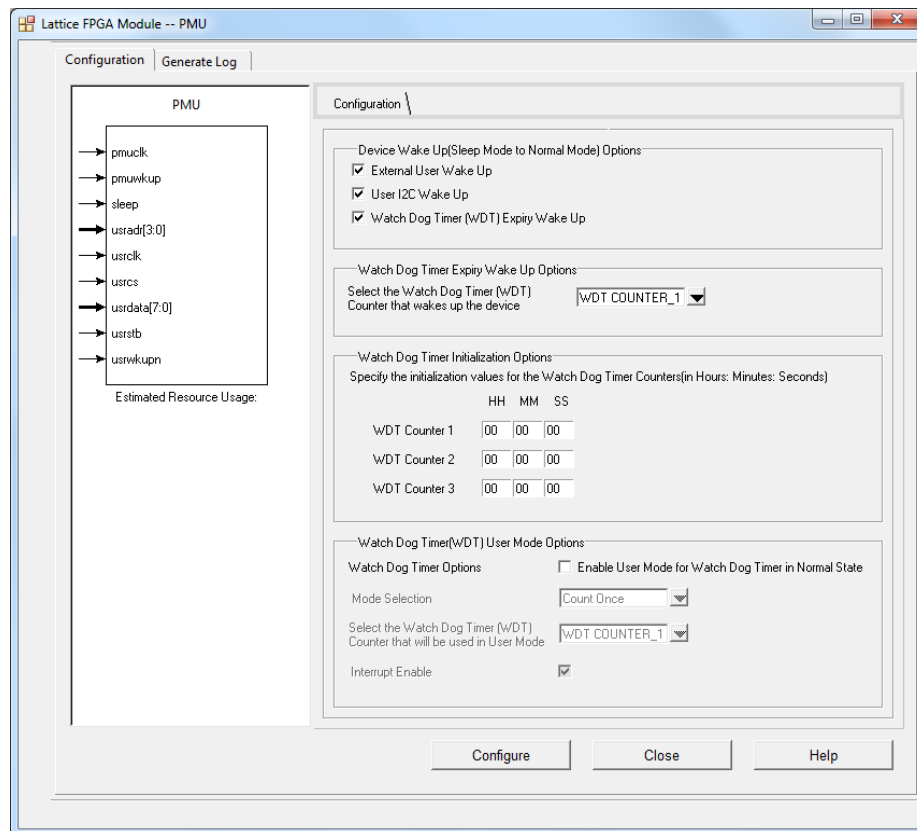

Figure 2.9. PMU Configuration UI
- The next screen shows the various options to configure the PMU. All these options have been discussed in the earlier sections. Figure 2.9 shows the **Configuration UI**.